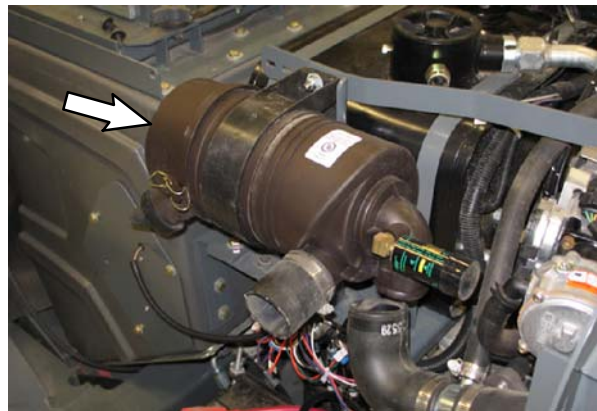

FIG. 44
57. Install the air filter assembly into the air filter clamp. (Fig. 44)